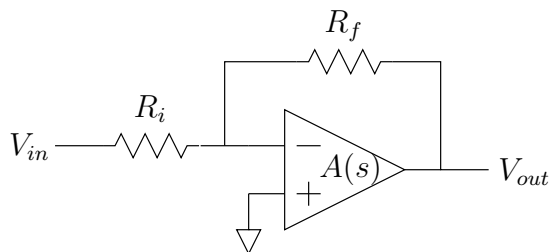

Figure 3: Basic Inverting Amplifier using Pseudo Op-Amp
In all parts of the lab, the pseudo op-amp will be used to form an inverting amplifier as shown in Figure 3.
1. Build the inverting amplifier circuit of Figure 3, setting $R_i = 62k\Omega$ and $R_f = 220k\Omega$ using 1% resistors.